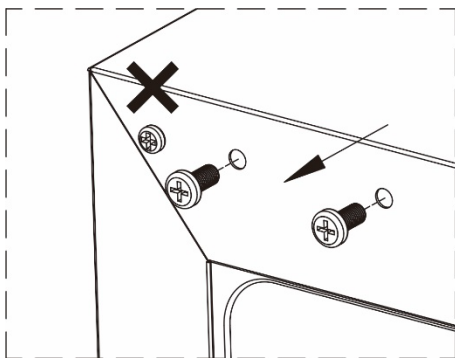

Fig.1
2. Remove the screws from the upper and lower left corners of the unit using a Philips screwdriver. (Fig.1)